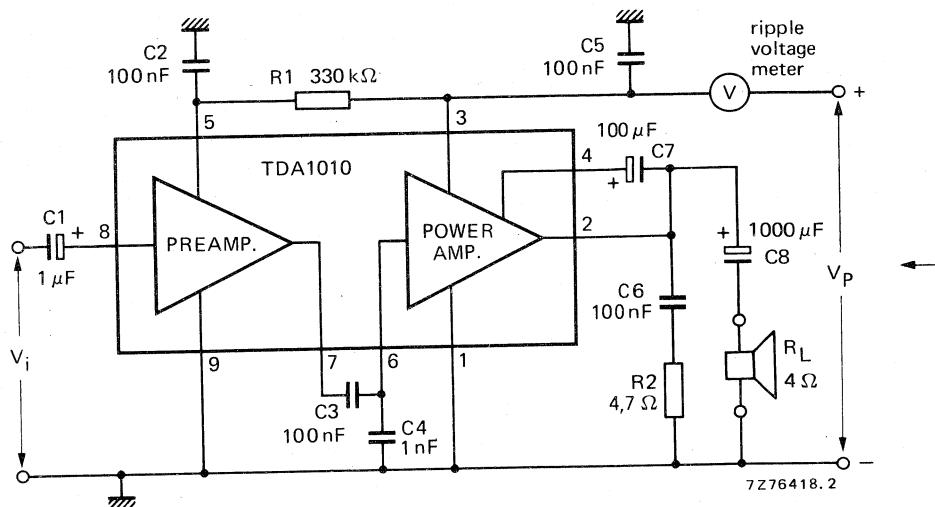

Fig. 3 Test circuit.
$T_{amb} = 25^{\circ}\text{C}$; $V_P = 14,4$ V; $R_L = 4 \Omega$; $f = 1$ kHz unless otherwise specified; see also Fig. 3.
Fig. 4 Output power of the circuit of Fig. 3 as a function of the supply voltage with the load impedance as a parameter; typical values. Solid lines indicate the power across the load, dashed lines that available at pin 2 of the TDA1010. $R_L = 2 \Omega$ (1) has been measured with an additional 220 Ω bootstrap resistor between pins 3 and 4. Measurements were made at $f = 1$ kHz, $d_{tot} = 10\%$, $T_{amb} = 25^\circ C$.
Total harmonic distortion in the circuit of Fig. 3 as a function of the output power with the load impedance as a parameter; typical values. Solid lines indicate the power across the load, dashed lines that available at pin 2 of the TDA1010. $R_L = 2 \Omega$ (1) has been measured with an additional 220 Ω bootstrap resistor between pins 3 and 4. Measurements were made at $f = 1$ kHz, $V_p = 14,4$ V.
Fig. 7 Total power dissipation (solid lines) and the efficiency (dashed lines) of the circuit of Fig. 3 as a function of the output power with the load impedance as a parameter (for $R_L = 2\Omega$ an external bootstrap resistor of 220Ω has been used); typical values. $V_p = 14,4\text{ V}$; $f = 1\text{ kHz}$.